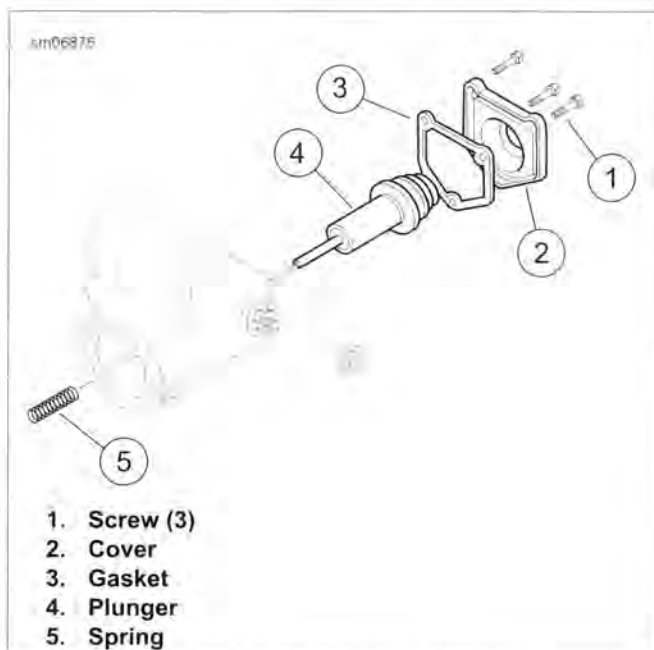

Figure 7-22. Solenoid Plunger
1. See Figure 7-22. Remove fasteners (1), cover (2) and gasket (3).
2. Remove the plunger (4) with spring (5).